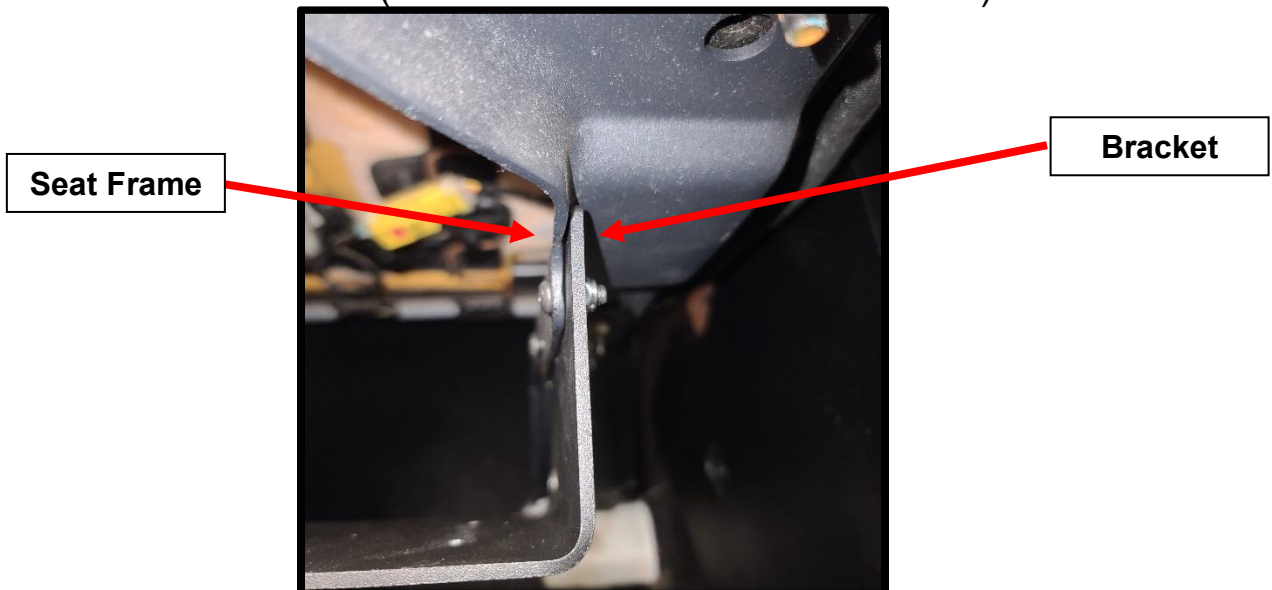

Figure 8
- 2-H) Bolt the ARB bracket to the inside (towards center of vehicle) of the inner side seat frame rail as shown in **Figure 8**. It is important that the bolt and nut face in the direction shown (nut will be towards center of vehicle).